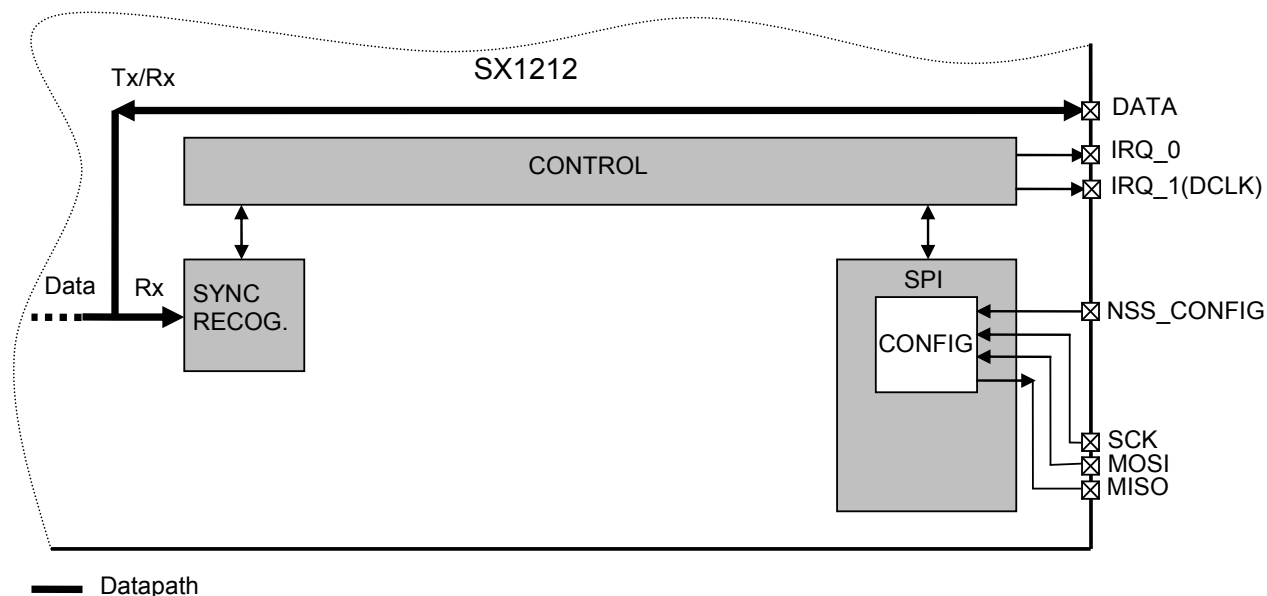

Figure 34: Continuous Mode Conceptual View
As illustrated in Figure 34, in Continuous mode the NRZ data to (from) the (de)modulator is directly accessed by the uC on the bidirectional DATA pin (20). The SPI Data, FIFO and packet handler are thus inactive.